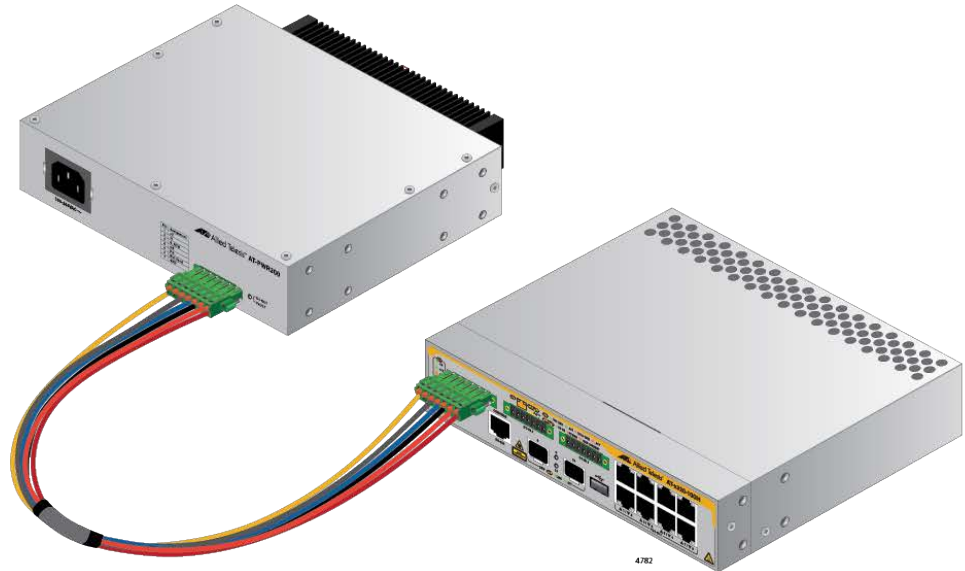

Figure 63. Connecting the PWR300 Power Supply to the x320-10GH Switch
3. Connect the other end of the external harness to the PWR300 power supply. Refer to Figure 63.